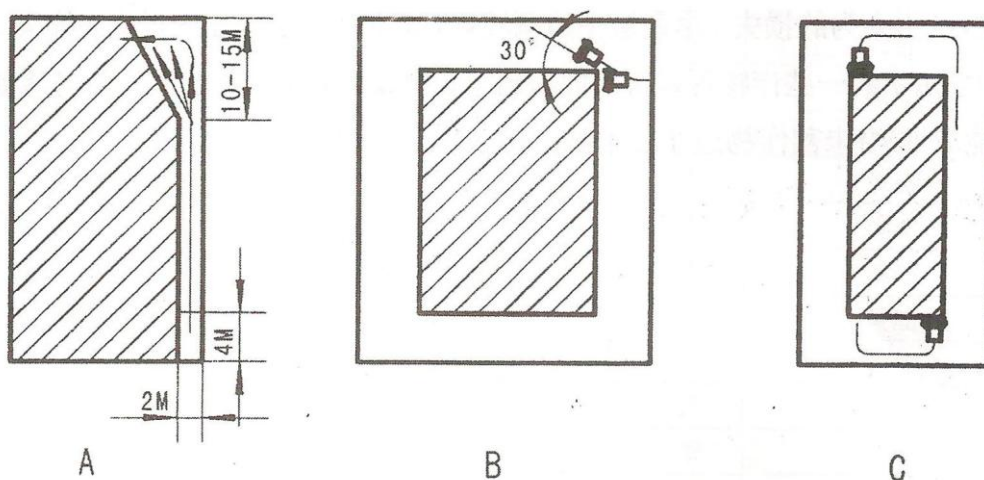

Figure 15
I. Preparation of Cutting Way, see Figure 15